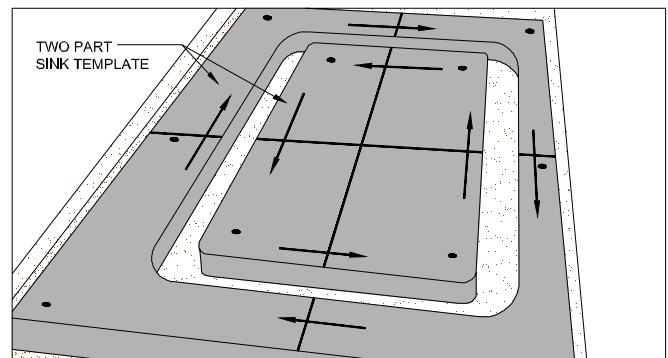

Figure 5B
- Make a two part template to route the substrate for your sink cutout in the pre-bonded laminate countertop. (FIG. 5B)